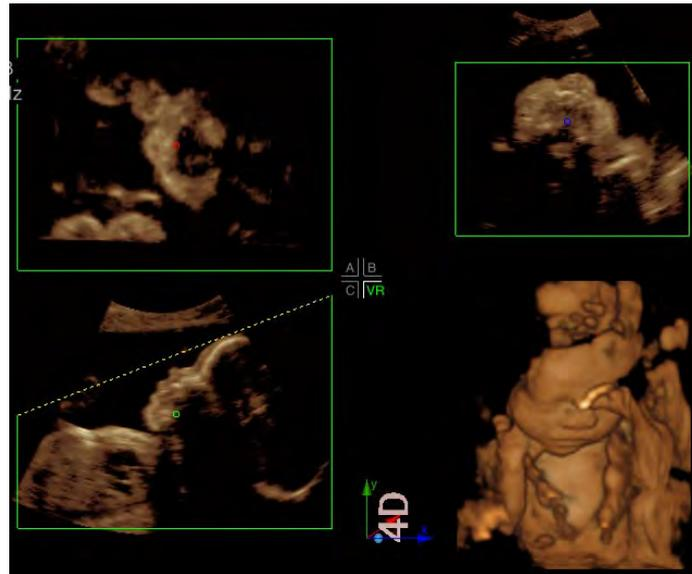

Fig.D-8 A/B/C/VR mode
- a) A/B/C/VR mode (as shown in Fig. D-8), which is the quad-window display.